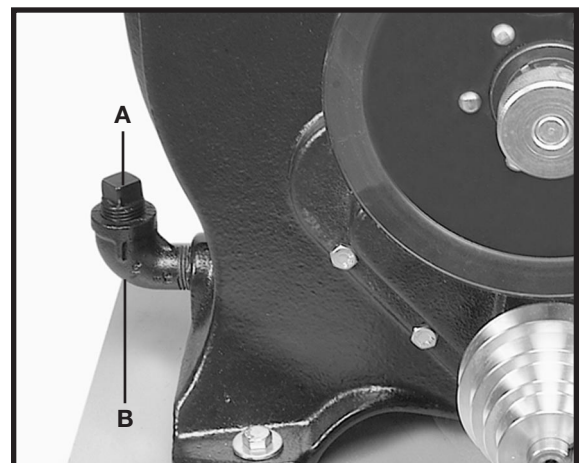

Fig. 62
The gear case is filled at the factory with 1-1/2 quarts of oil. The case should be drained after 1500 to 2000 hours of operation and filled with a good grade of heavy adhesive gear oil. A pipe plug is located below the elbow (B) Fig. 62. Remove this plug to drain the oil.
This machine is equipped with a 1/2" street elbow (B) Fig. 62 and a pipe plug (A). Remove the plug (A) to check the oil level and, when necessary, to add oil. The oil level should be approximately at the top of the bend in the elbow (B).